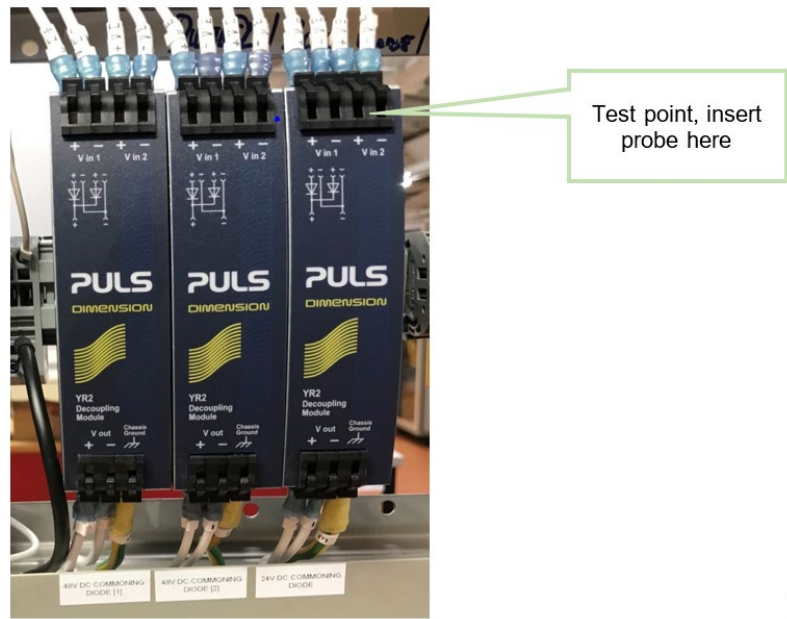

Figure 8 - Three Y-Diode networks showing a test point
- 10.1 The Power rack sub-system includes three Y-Diode networks as shown in Figure 8. Each diode unit has at least one downstream MCB where the Diode network output voltage can be checked.